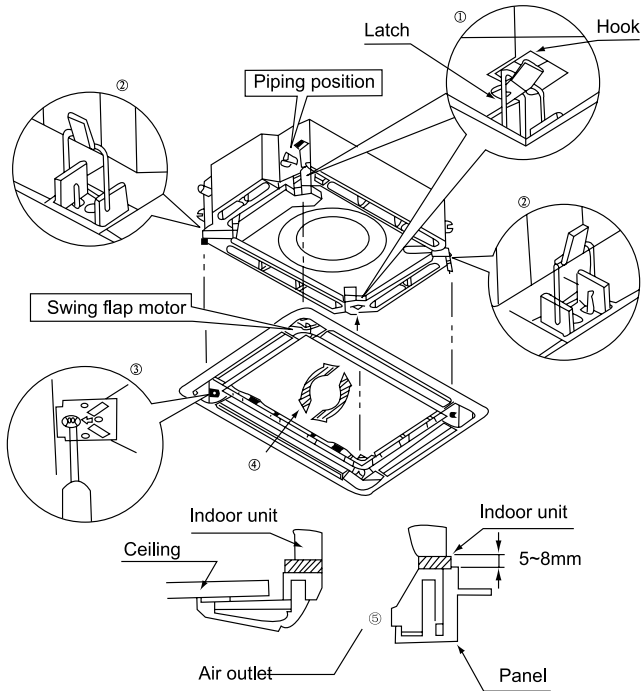

Fig.35
- (1). Place the panel at the unit, and latch the hooks beside and opposite the swing flap motor.
- (2). Latch other two hooks.
- (3). Tighten four hexagonal screws under the latches about 15mm.
- (4). Adjust the panel along the direction indicated by the arrow as shown in Fig.35.
- (5). Tighten the screws until the thickness of the sealing material between the panel and the indoor unit reduces to 5-8{ m.